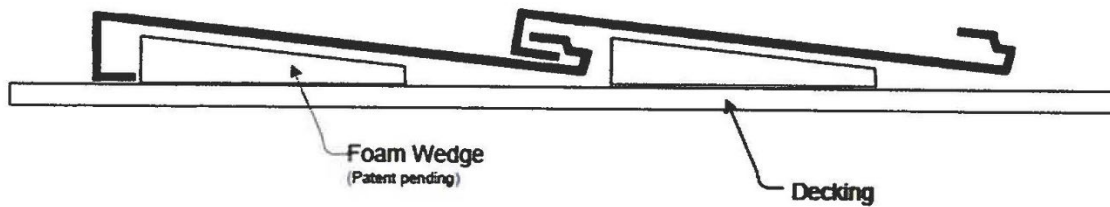

FIG. 1: Panel Overlap
The panels must be fastened to the roof deck with a minimum of six (6) No. 10-12 x 2-1/2" hex head screws across the back flange. The screws are to be placed approximately 6-3/4" on center into the predrilled holes. Fasteners must be long enough to penetrate complete through the roof deck. Foam insulation should be inserted into the cavity of the panel. The roofing panels are to be installed in a vertically interlocking position starting left to right. The installing panel on the right side will overlap the installed panel on left side. The second and the subsequent courses must be installed in a random non repetitive pattern. The nose of the panel in the second and subsequent rows must lock into the back flange of the previous row shown in Figure 1. The side of each panel must overlap by 2-1/2" and the back flange of the two panels must be flush with each other at the notches without a gap.